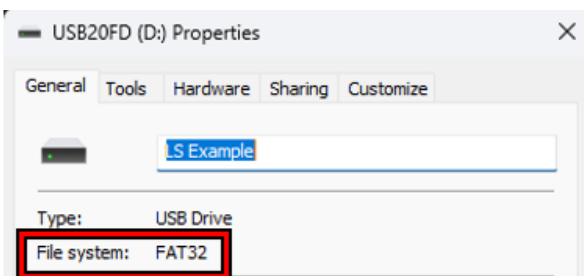

Figure 1. USB Drive Properties
2. After inserting the USB drive, right mouse click on the drive from file explorer and select properties to see how it is formatted. Refer to **Figure 1**.